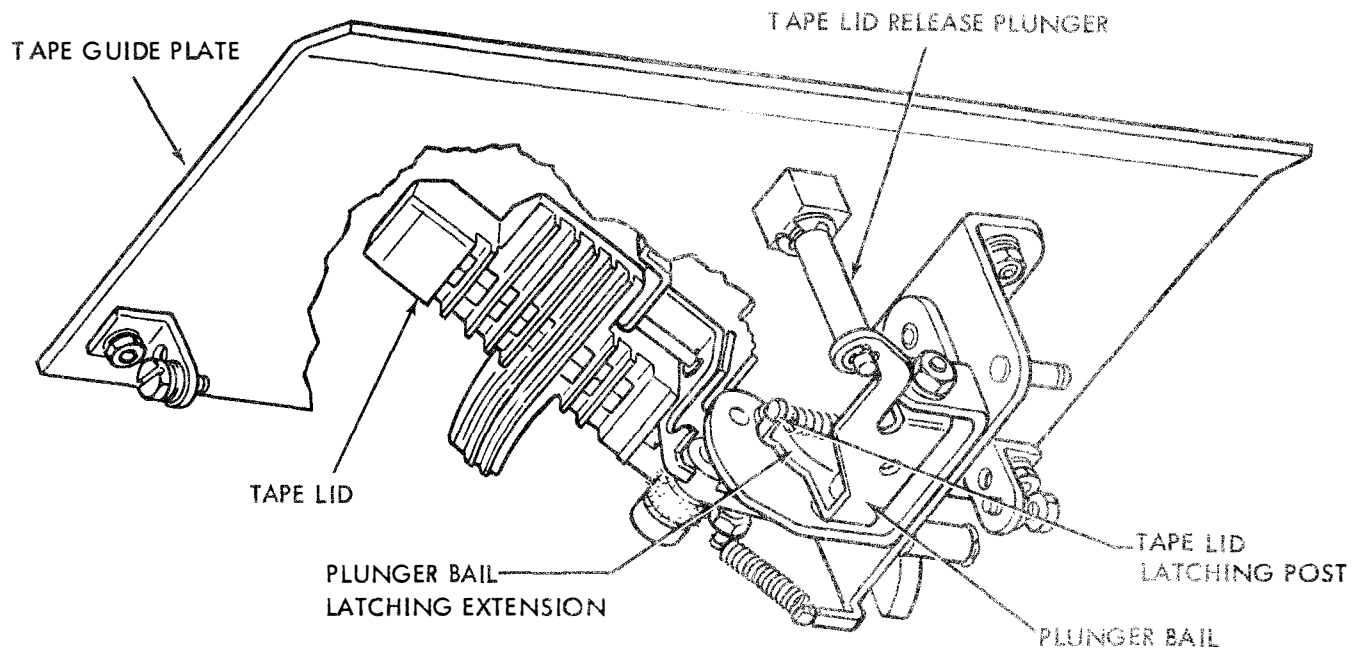

Figure 21 - Tape Lid Mechanism - Bottom View
2.28 When the tape lid button is pressed, the shaft portion of the button presses against the tape lid plunger bail extension causing the bail to pivot. The bail, in pivoting, moves its latching extension from under the tape lid latching post permitting the post to swing downward under action of its spring. Since the latching post is mounted on the tape lid behind the pivot point and below the tape guide plate it causes the main part of the tape lid to swing upward (open) when the post swings downward. Figure 21.